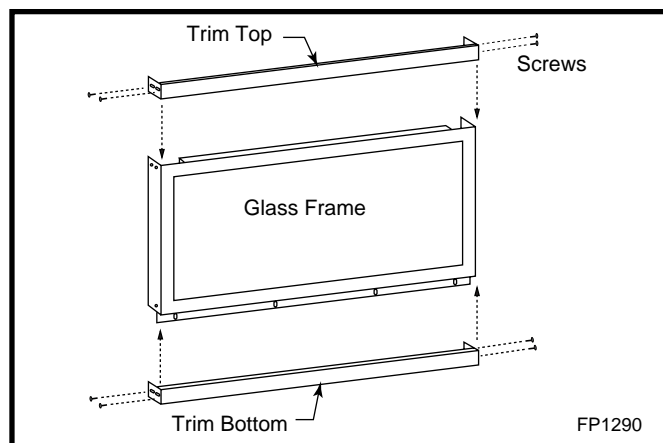
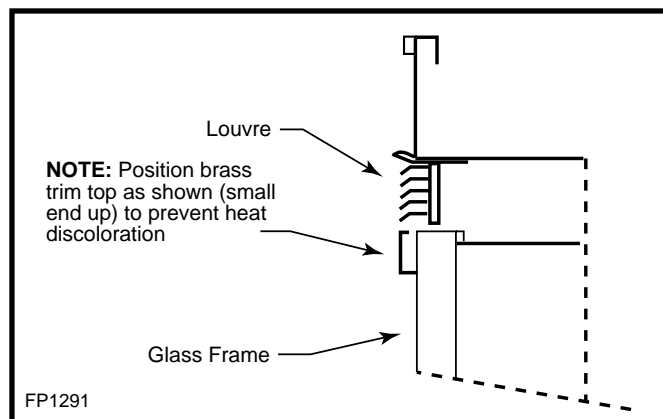

Fig. 57 Install top and bottom brass trim.
Fig. 58 Position brass trim top with small end up.
2. Install top and bottom brass trim (Fig. 57 & Fig. 58) Use the shortest black screw.